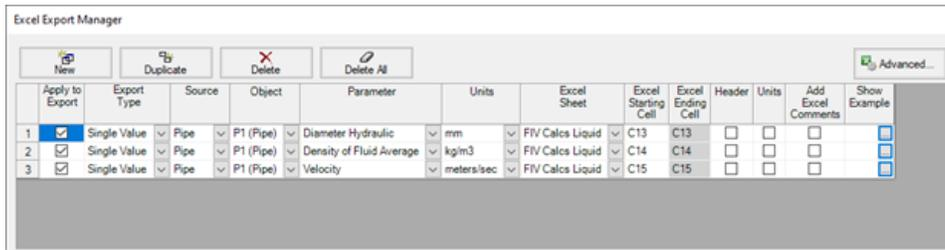
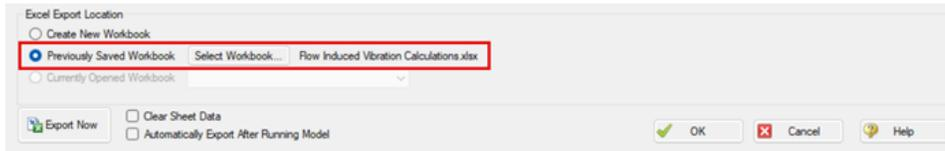

Figure 4: Excel Export Manager window with incompressible fluids
Figure 5: Bottom of the Excel Export Manager window
4. The Flow Induced Vibration Calculation Excel spreadsheet should be preselected. If not, click the **Select Workbook** button, navigate to the **Flow Induced Vibration Calculation.xlsx** file then click **Open**. The top of the Excel Export Manager window should look like Figure 4 and the bottom should look like Figure 5.